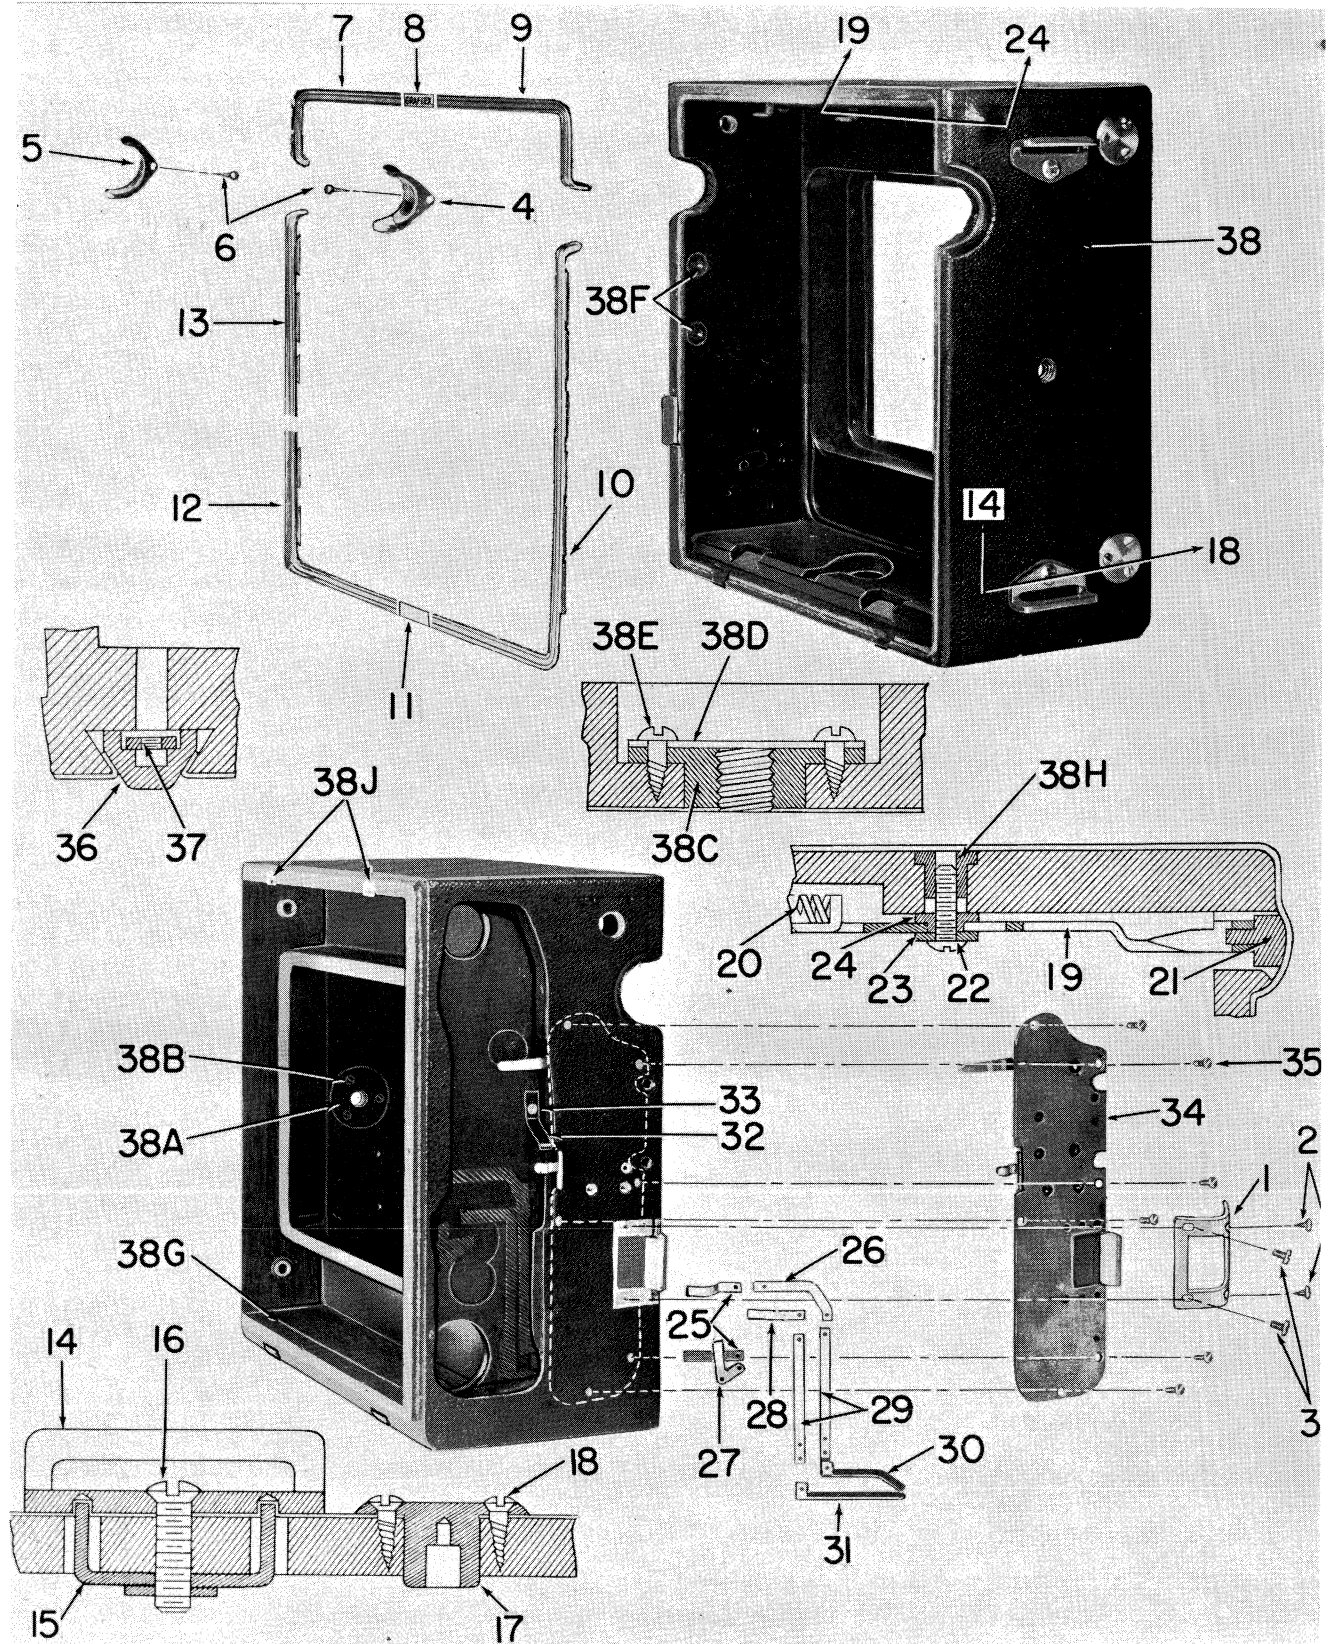

Figure 12. Body, Exploded View
(c) From the bed hinge, remove two wood screws (31, figure 2). Remove four yoke guide case screws (32) that are screwed into machine nuts (37, figure 12) located in the case feet (36).
(a) Place the bed in position in the camera case and reassemble four yoke guide case screws (32, figure 2) that are screwed into the machine nut (37, figure 12) located in the foot (36). Assemble two wood screws (31, figure 2).
(a) Remove the release slide plate (1, figure 12).
(f) Remove six wood screws (35, figure 12) that secure the body release plate assembly (34), and remove the plate assembly.
(a) Before replacing the body release plate assembly (34, figure 12) the mounting holes that are used to mount the rangefinder base and housing should be covered with transparent tape to prevent the tapped holes from becoming plugged with adhesive.
2. To remove the bottom tripod socket it is first necessary to remove the bed assembly (27, figure 2) as described in paragraph VI. A. 1. Remove three round head wood screws (38E, figure 12) and remove the cover plate (38D) and tripod socket (38C).